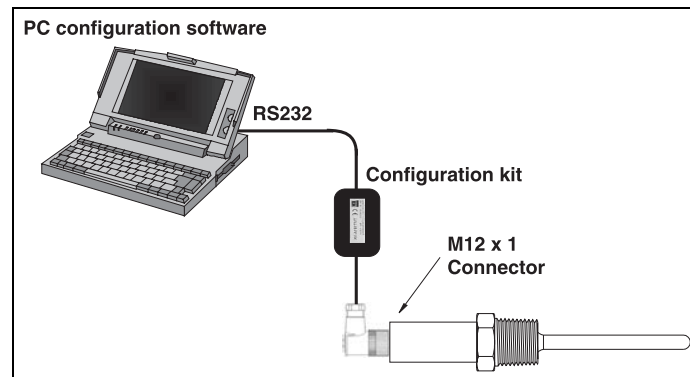

Fig. 5: Connection to PC for configuration
Connect the PC serial interface connection cable (TTL/RS 232C) to the M12 x 1 plug-in micro-connector → Fig. 5.
1. Connect the M12 plug-in connection of the interface connecting cable to the M12 x 1 micro-connector in the compact RTD transmitter (see 'Fig. 5' in Chapter 4.2).